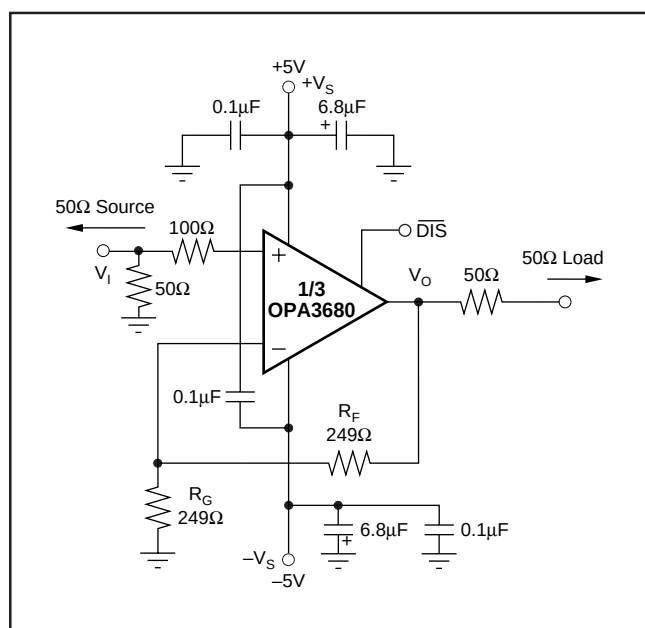
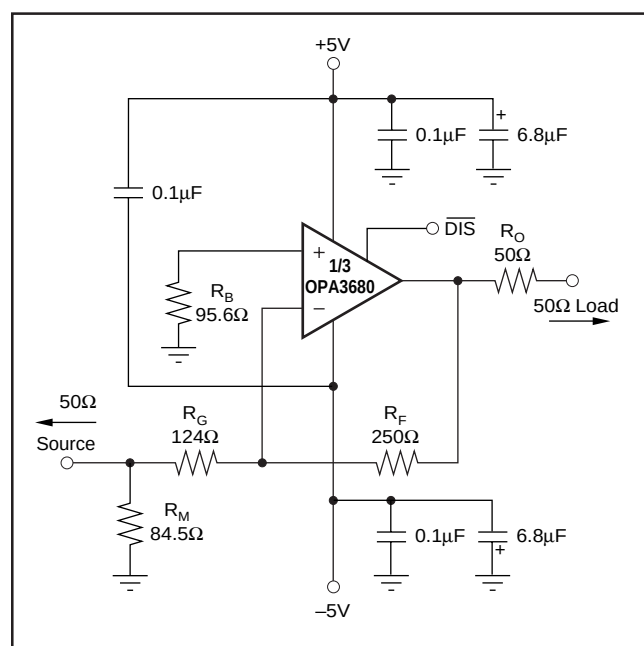

FIGURE 1. DC-Coupled, $G = +2$, Bipolar Supply, Specification and Test Circuit.
FIGURE 9. Gain of -2 Example Circuit.
At $T_A = +25^\circ C$, $G = +2$, $R_F = 250\Omega$, and $R_L = 100\Omega$, unless otherwise noted. See Figure 1.
Figure 1 shows the DC-coupled, gain of +2, dual power supply circuit configuration used as the basis of the $\pm 5\text{V}$ Specifications and Typical Performance Curves. For test purposes, the input impedance is set to 50Ω with a resistor to ground and the output impedance is set to 50Ω with a series output resistor. Voltage swings reported in the specifications are taken directly at the input and output pins, while output powers (dBm) are at the matched 50Ω load. For the circuit of Figure 1, the total effective load will be $100\Omega \parallel 498\Omega$. The disable control line is typically left open to guarantee normal amplifier operation. Two optional components are included in Figure 1. An additional resistor (100Ω) is included in series with the non-inverting input. Combined with the 25Ω DC source resistance looking back towards the signal generator, this gives an input bias current cancelling resistance that
A good rule of thumb is to target the parallel combination of R_F and R_G (Figure 1) to be less than approximately 125Ω . The combined impedance $R_F \parallel R_G$ interacts with the inverting input capacitance, placing an additional pole in the feedback network and thus, a zero in the forward response. Assuming a $3pF$ total parasitic on the inverting node, holding $R_F \parallel R_G < 125\Omega$ will keep this pole above $400MHz$. By itself, this constraint implies that the feedback resistor R_F can increase to several $k\Omega$ at high gains. This is acceptable as long as the pole formed by R_F and any parasitic capacitance appearing in parallel with it is kept out of the frequency range of interest.
Voltage-feedback op amps exhibit decreasing closed-loop bandwidth as the signal gain is increased. In theory, this relationship is described by the Gain Bandwidth Product (GBP) shown in the specifications. Ideally, dividing GBP by the non-inverting signal gain (also called the Noise Gain, or NG) will predict the closed-loop bandwidth. In practice, this only holds true when the phase margin approaches 90° , as it does in high gain configurations. At low gains (increased feedback factors), most amplifiers will exhibit a more complex response with lower phase margin. The OPA3680 is compensated to give a slightly peaked response in a non-inverting gain of 2 (Figure 1). This results in a typical gain of +2 bandwidth of $220MHz$, far exceeding that predicted by dividing the $300MHz$ GBP by 2. Increasing the gain will cause the phase margin to approach 90° and the bandwidth to more closely approach the predicted value of (GBP/NG) . At a gain of +10, the $30MHz$ bandwidth shown in the Typical Specifications agrees with that predicted using the simple formula and the typical GBP of $300MHz$.
Frequency response in a gain of +2 may be modified to achieve exceptional flatness simply by increasing the noise gain to 2.5. One way to do this, without affecting the +2 signal gain, is to add a 453Ω resistor across the two inputs in the circuit of Figure 1. A similar technique may be used to reduce peaking in unity gain (voltage follower) applica-
Since the OPA3680 is a general purpose, wideband voltage feedback op amp, all of the familiar op amp application circuits are available to the designer. Inverting operation is one of the more common requirements and offers several performance benefits. Figure 9 shows a typical inverting configuration where the I/O impedances and signal gain from Figure 1 are retained in an inverting circuit configuration.
advantage that the noise gain becomes equal to 2 for a 50 Ω source impedance—the same as the non-inverting circuits considered above. However, the amplifier output will now see the 100 Ω feedback resistor in parallel with the external load. In general, the feedback resistor should be limited to the 100 Ω to 1.5k Ω range. In this case, it is preferable to increase both the R_F and R_G values as shown in Figure 9 and then achieve the input matching impedance with a third resistor (R_M) to ground. The total input impedance becomes the parallel combination of R_G and R_M .
The second major consideration, touched on in the previous paragraph, is that the signal source impedance becomes part of the noise gain equation and hence influences the bandwidth. For the example in Figure 9, the R_M value combines in parallel with the external 50 Ω source impedance, yielding an effective driving impedance of $50\Omega \parallel 84.5\Omega = 31.4\Omega$. This impedance is added in series with R_G for calculating the noise gain (NG). The resultant NG is 2.6 for Figure 9, as opposed to only 2 if R_M could be eliminated as discussed above. The bandwidth will therefore be slightly lower for the gain of -2 circuit of Figure 9 than for the gain of $+2$ circuit of Figure 1.
The third important consideration in inverting amplifier design is setting the bias current cancellation resistor on the non-inverting input (R_B). If this resistor is set equal to the total DC resistance looking out of the inverting node, the output DC error, due to the input bias currents, will be reduced to (Input Offset Current) $\cdot R_F$. If the 50 Ω source impedance is DC-coupled in Figure 9, the total resistance to ground on the inverting input will be 155 Ω . Combining this in parallel with the feedback resistor gives the $R_B = 95.6\Omega$ used in this example. To reduce the additional high frequency noise introduced by this resistor, it is sometimes bypassed with a capacitor. As long as $R_B < 350\Omega$, the capacitor is not required since the total noise contribution of all other terms will be less than that of the op amp's input noise voltage. As a minimum, the OPA3680 requires an R_B value of 50 Ω to damp out parasitic-induced peaking—a direct short to ground on the non-inverting input runs the risk of a very high frequency instability in the input stage.
The distortion plots show which changes in operation will improve distortion. Increasing the load impedance improves distortion directly. Remember that the total load includes the feedback network; in the non-inverting configuration (Figure 1) this is sum of $R_F + R_G$, while in the inverting configuration (Figure 9), it is just R_F . Also, providing an additional supply decoupling capacitor (0.1μF) between the supply pins (for bipolar operation) improves the 2nd-order distortion slightly (3dB to 6dB).
Evaluating these two equations for the OPA3680 circuit and component values shown in Figure 1 will give a total output spot noise voltage of $11\text{nV}/\sqrt{\text{Hz}}$ and a total equivalent input spot noise voltage of $5.5\text{nV}/\sqrt{\text{Hz}}$. This is including the noise added by the bias current cancellation resistor (100Ω) on the non-inverting input. This total input-referred spot noise voltage is only slightly higher than the $4.8\text{nV}/\sqrt{\text{Hz}}$ specification for the op amp voltage noise alone. This will be the case as long as the impedances appearing at each op amp input are limited to the previously recommend maximum value of 125Ω . Keeping both $(R_F \parallel R_G)$ and the non-inverting input source impedance less than 125Ω will satisfy both noise and frequency response flatness considerations. Since the resistor-induced noise is relatively negligible, additional capacitive decoupling across the bias current cancellation resistor (R_B) for the inverting op amp configuration of Figure 9 is not required.
The balanced input stage of a wideband voltage feedback op amp allows good output DC accuracy in a wide variety of applications. The power supply current trim for the OPA3680 gives even tighter control than comparable products. Although the high speed input stage does require relatively high input bias current (typically $14\mu\text{A}$ out of each input terminal), the close matching between them may be used to reduce the output DC error caused by this current. The total output offset voltage may be considerably reduced by matching the DC source resistances appearing at the two inputs. This reduces the output DC error due to the input bias currents to the offset current times the feedback resistor. Evaluating the configuration of Figure 1, using worst-case $+25^\circ\text{C}$ input offset voltage and current specifications, gives